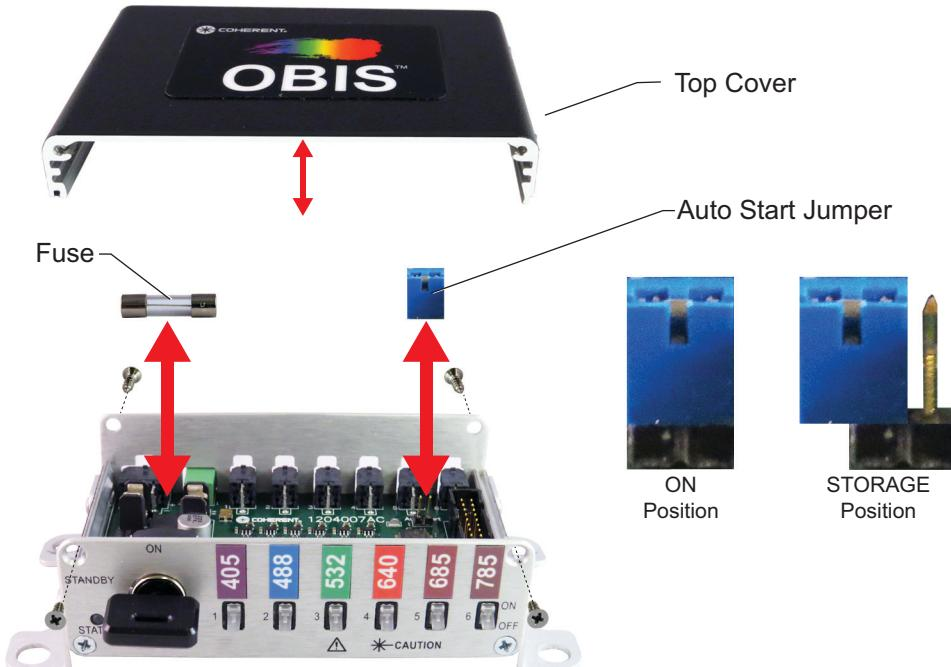

Figure 2-11. OBIS 6-Laser Remote – Exploded View
The Auto Start jumper is inside the OBIS 6-Laser Remote. To access the jumper, remove the top four screws on the front and back covers and then remove the top cover (see Figure 2-11).
- [] Remove the OBIS 6-Laser Remote cover and check the fuse. If the fuse needs replacement, use a 10 amp, 250V, 5 x 20 mm, slow-blow fuse (Catalog #218010P). Refer to Figure 2-11 (p. 2-29) for location of the fuse and the cover screws.